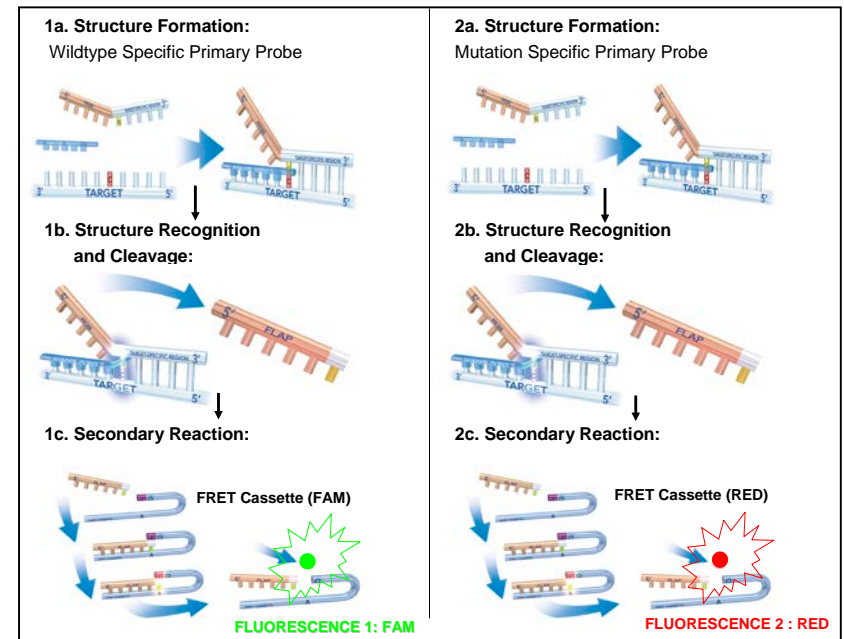

Figure 1: Invader Plus® Signal Generation Phase
The Invader® MTHFR 677 test utilizes the Invader Plus® chemistry with DNA isolated from human whole blood for the detection of the targeted sequence polymorphism. Specifically, the Invader Plus® chemistry utilizes a single-tube, two phase reaction, including target amplification and signal generation (mediated by Invader® chemistry). Invader Plus® reaction mixes are assembled by combining the MTHFR 677 Oligo Mix, Universal Enzyme Mix, and Universal Buffer. In a 96-well plate, reaction mix is combined with purified genomic DNA samples, as well as four (4) controls included with the test. The No DNA Control is used by the interpretive software to set the "noise" component of the run for "signal-to-noise" calculations. The genotype-specific controls (WT, HET, MUT) ensure reagents were assembled correctly and perform according to the specifications. The 96-well plate is transferred to an appropriately programmed thermal cycler for target amplification and signal generation. In the target amplification phase of the reaction, amplification is carried out using "two-step" cycling conditions (i.e., denaturation & annealing/extension). Following amplification, Taq polymerase is inactivated by a 10 minute incubation at 99°C, after which the thermal cycler proceeds to 63°C to initiate the signal generation (Invader®) phase of the reaction (see Figure 1).
During the signal generation phase, a discriminatory Primary Probe transiently hybridizes to the amplified target sequence along with an Invader[®] oligonucleotide, to form an overlapping structure. The 5'-end of the Primary Probe includes a 5'-flap that does not hybridize to the target DNA. The 3'-nucleotide of the bound Invader[®] oligonucleotide overlaps the Primary Probe, and does not hybridize to the target DNA. The Cleavase[®] enzyme recognizes this overlapping structure and cleaves off the unpaired 5'-flap of the Primary Probe, releasing it as a target-specific product. The Primary Probe is designed to have a melting temperature aligned with the Invader[®] reaction temperature so that under the isothermal reaction conditions (~63°C) the Primary Probes cycle on and off the target DNA. This allows for multiple rounds of Primary Probe cleavage for each DNA target resulting in an accumulation of the number of released 5'-flaps. The released 5'-flap transiently hybridizes with a corresponding FRET cassette forming an overlapping structure that is recognized and the fluorophore is cleaved from the FRET cassette by the Cleavase[®] enzyme. The 5'-flap is designed to have a melting temperature aligned with the Invader[®] reaction temperature, so that the 5'-flaps cycle on and off of the corresponding FRET cassettes. This allows for multiple rounds of FRET cassette cleavage for each 5'-flap, and an accumulation of released fluorophore. When the FRET cassette is cleaved, a fluorophore and quencher are separated, generating detectable fluorescence signal. The format uses two different discriminatory Primary Probes, one for the mutant allele and one for the wild type allele (Figure 1). Each Primary Probe is assigned a unique 5'-flap, and distinct FRET cassette, with a spectrally distinct fluorophore. By design, the released 5'-flaps will bind only to their respective FRET cassettes to generate a target-specific signal, linking the wild type allele with one fluorophore (Fluorescence 1: FAM) and the mutant allele with the second fluorophore (Fluorescence 2: RED).